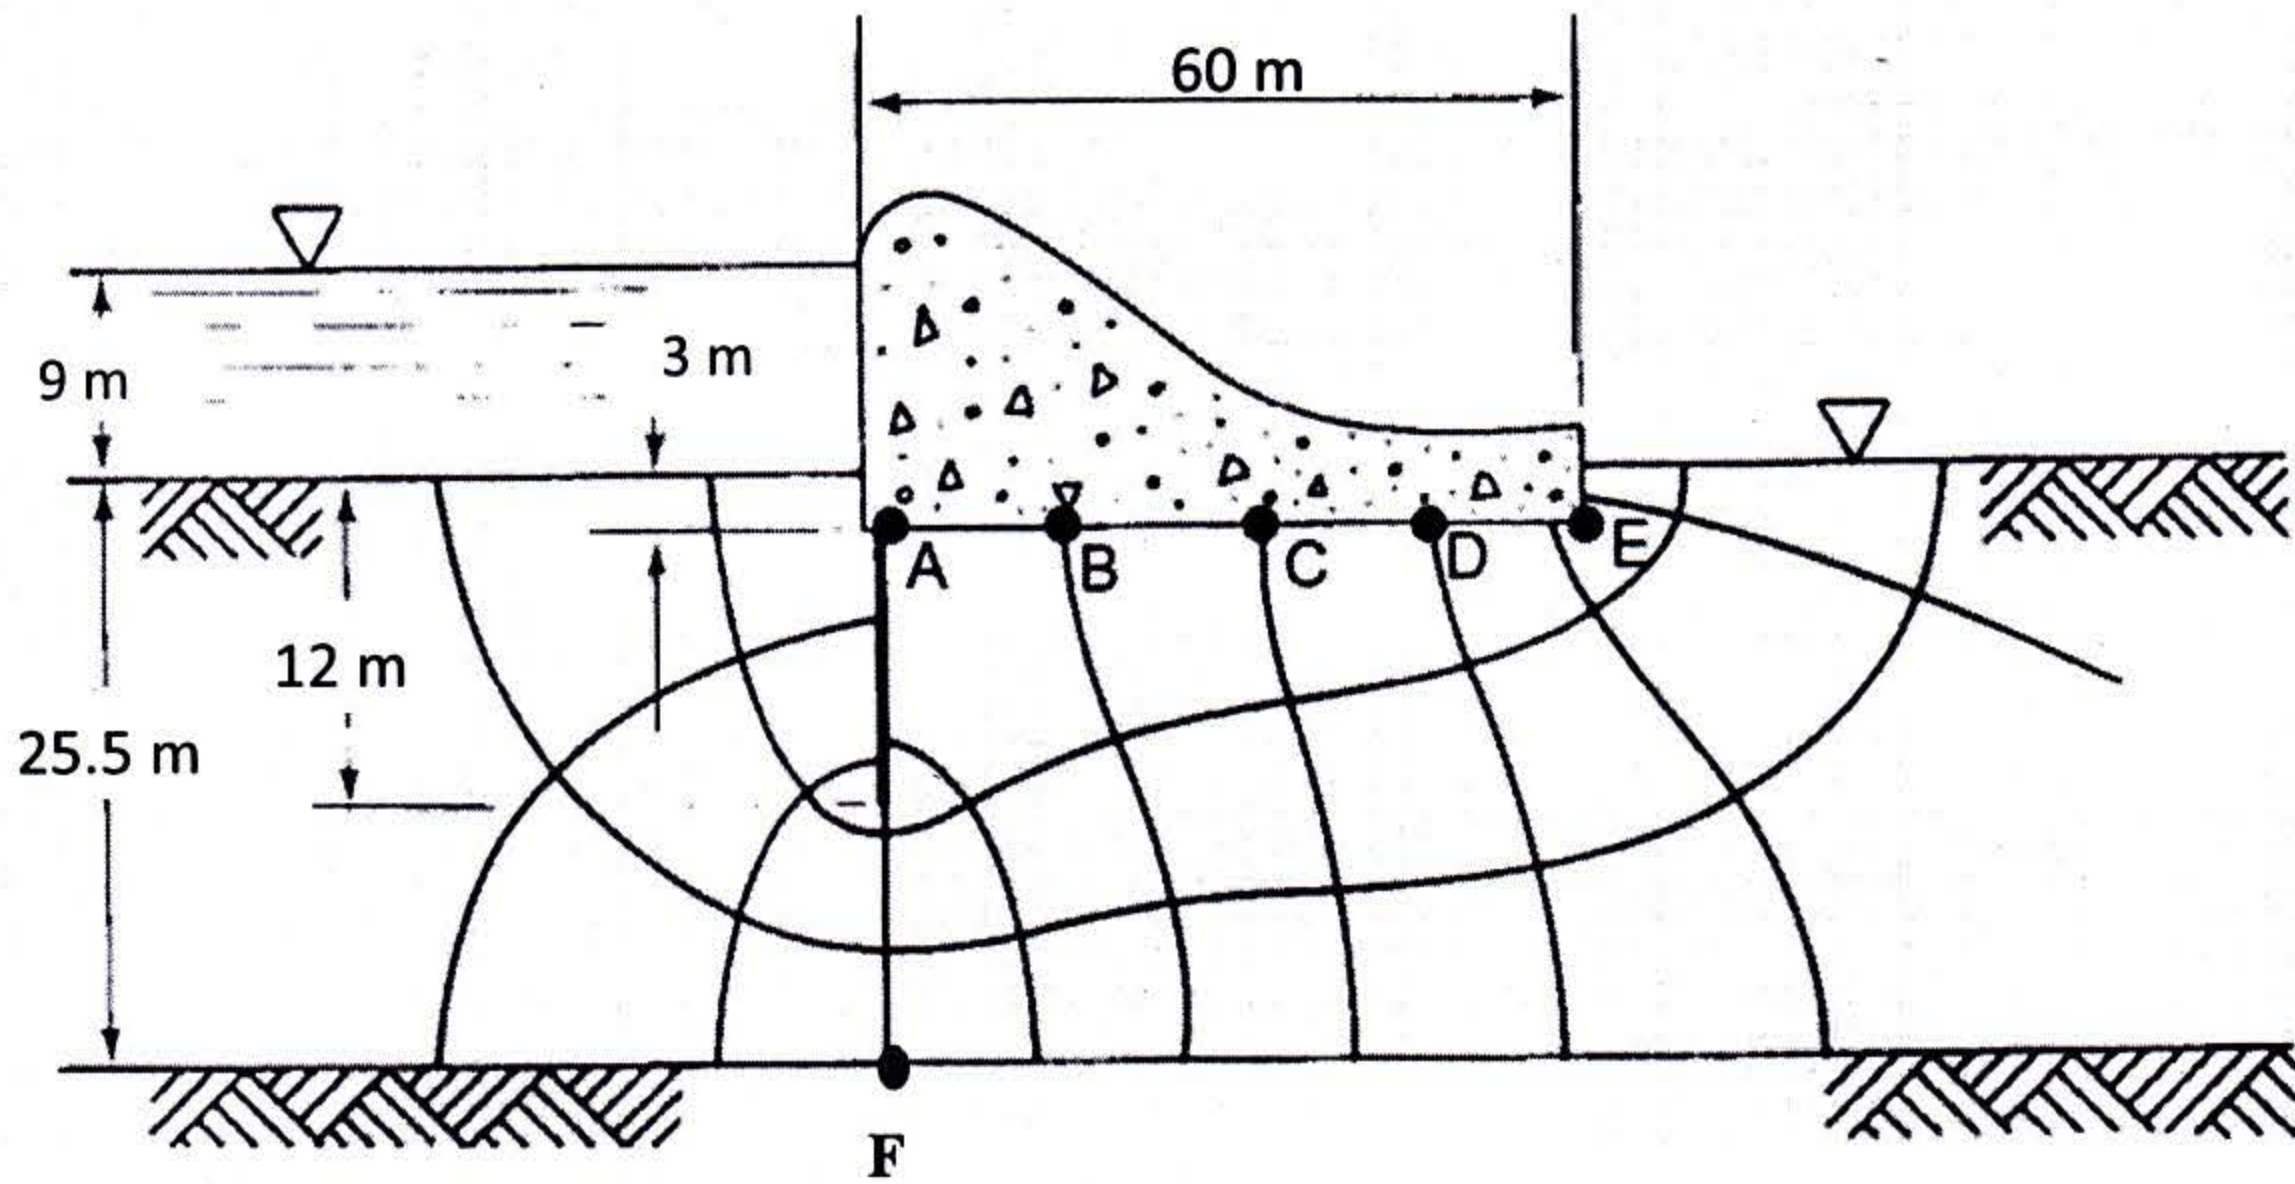

Fig. 4: Flow-net below the dam
5. The flow-net below a concrete dam is drawn (Fig.4).
- (vi) What will happen to the flow rate below the dam, if the sheet pile wall is shorter than the one shown in Fig. 4. 3